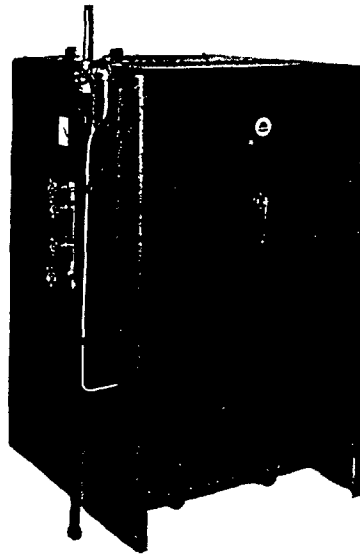
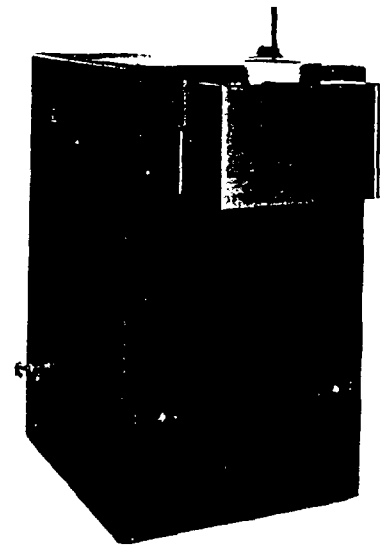

FIG. 15—Front View—Steam Boiler
FIG. 16—Rear View—Steam Boiler
12. Assemble two, back filler pieces to top panel and upper back panel, each with four #10 x 1" sheet metal screws. Refer to Fig. 16 for assembly of back jacket pieces and draft hood.
Install steam gauge and water column trimmings in left end section. Install safety valve piping and safety valve in right end section. Fig 15 shows front view of complete steam boiler (6 sections) Fig. 16 shows rear view of complete steam boiler. (6 sections).